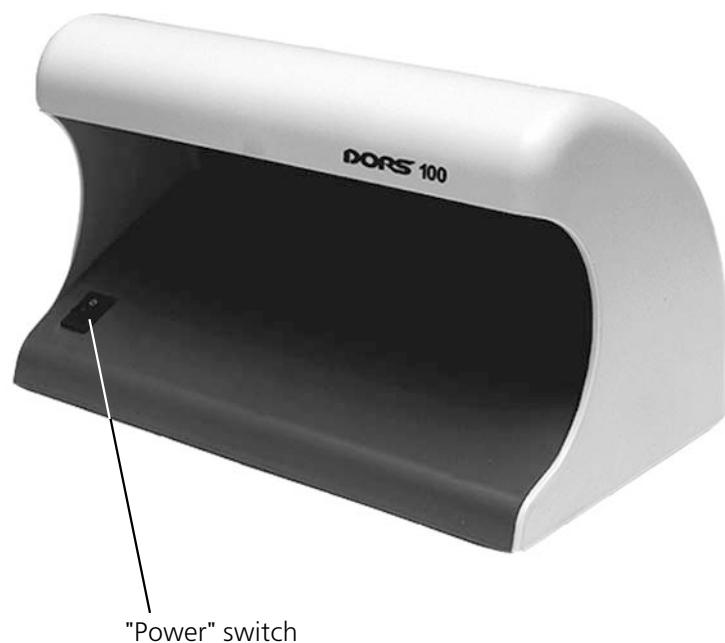

Fig. 1
1. Connect the device to the wall outlet (220 V, 50 Hz) and switch it on with the "**POWER**" switch on the front panel of the unit (Fig. 1).